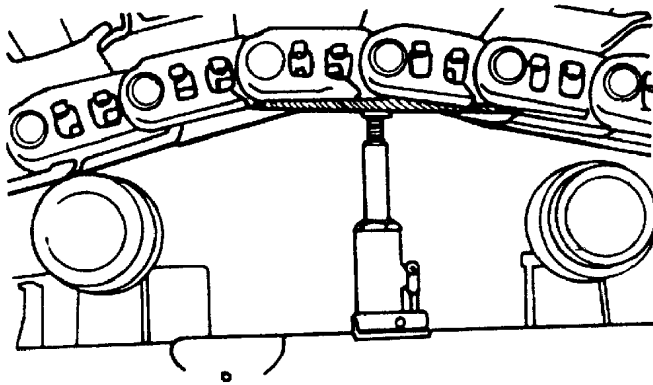

Fig. 14.18. Raising Track Chain
2. Position a jack on top of the track frame. With a wooden block placed on the jack seat, raise the track until it is clear of the top idler (Fig. 14.18).